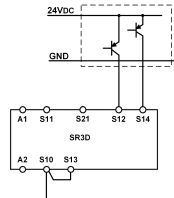
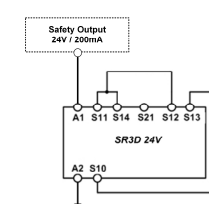

Fig. 10:
Fig. 11:
- For applications according to Fig. 10 and Fig. 11 make sure that the reference potential of the signal generator and the SR3D is the same